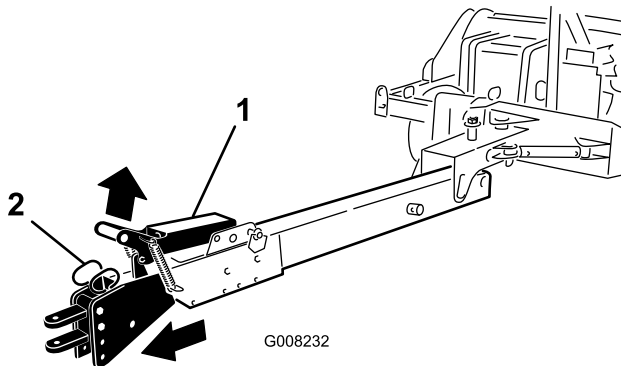

Figure 22
B. Lift up on the latch handle (Figure 22).
C. Slowly drive the vehicle forward until the hitch assembly locks into place (Figure 22).
8. To retract the tow hitch, lift up on the latch handle and slowly back up the vehicle until the hitch assembly locks into place (Figure 22).